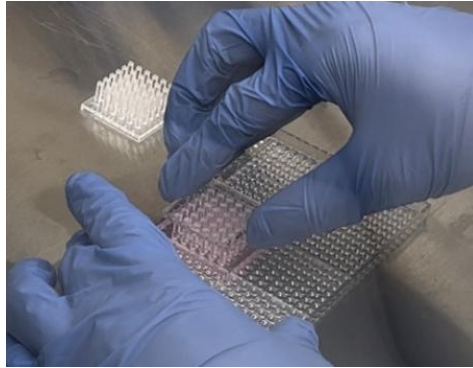

Figure 3. Stamping of the 36PillarPlate on the LoadingPlate to load cells suspended in alginate on pillars.
- Stamp the 36PillarPlate on the LoadingPlate and press gently to load the cell-alginate mixture evenly on the entire pillar plate (**Fig. 3**). Repeat this cell loading step for another pillar plate.